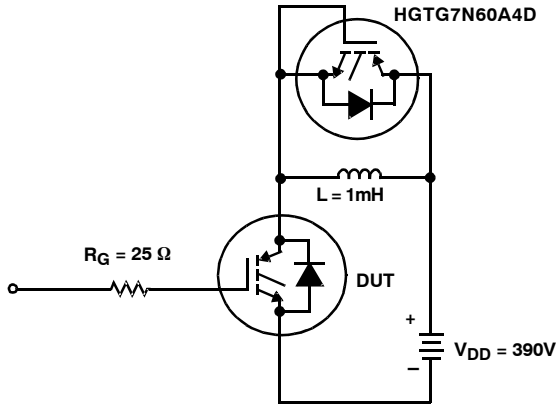

Figure 24. INDUCTIVE SWITCHING TEST CIRCUIT
2. Values for two Turn-On loss conditions are shown for the convenience of the circuit designer. E_{ON1} is the turn-on loss of the IGBT only. E_{ON2} is the turn-on loss when a typical diode is used in the test circuit and the diode is at the same T_J as the IGBT. The diode type is specified in Figure 24.